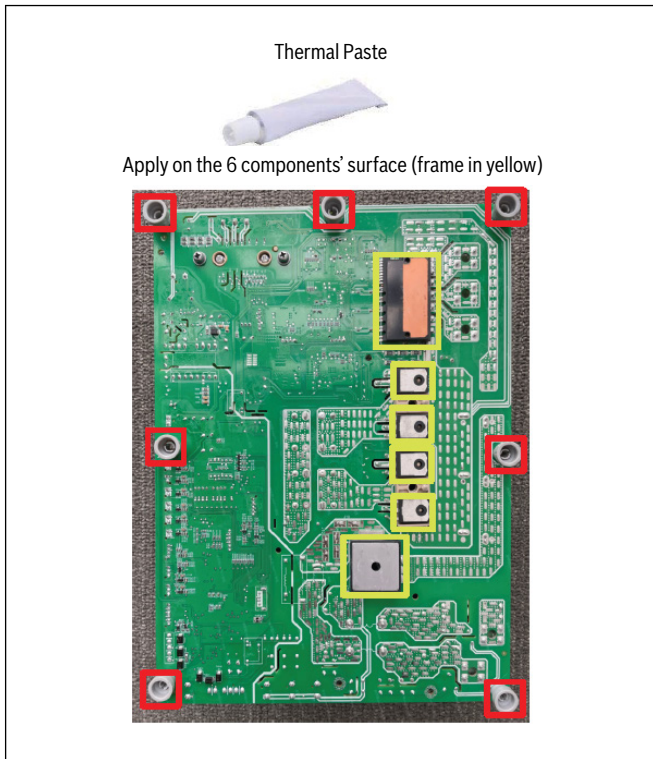

Figure 6
- Apply the thermal paste on the 6 components of the replacement board (refer to Figure 6).
12. Install the 7 plastic standoffs on the new board (refer to Figure 6: items framed in red).